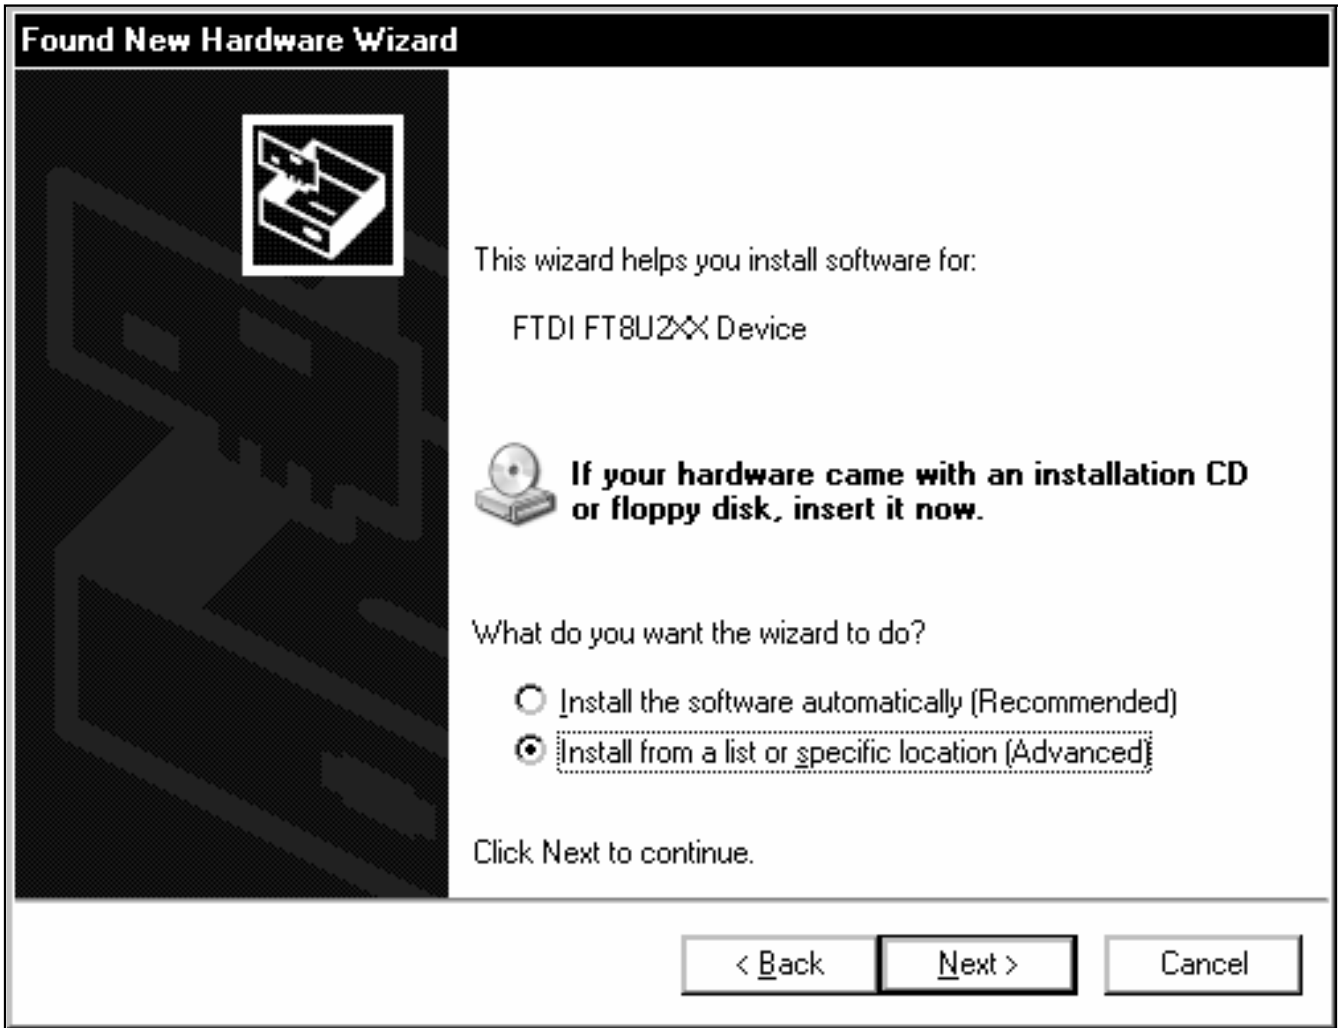

Figure 2. Windows XP: **Found New Hardware Wizard | FTDI FT8U2XX Device** Window
- 2) A **Found New Hardware Wizard | FTDI FT8U2XX Device** window (Figure 2) appears next. This window asks **What do you want the wizard to do?**. Choose the **Install from a list or specific location (Advanced)** option and press the **Next** button.